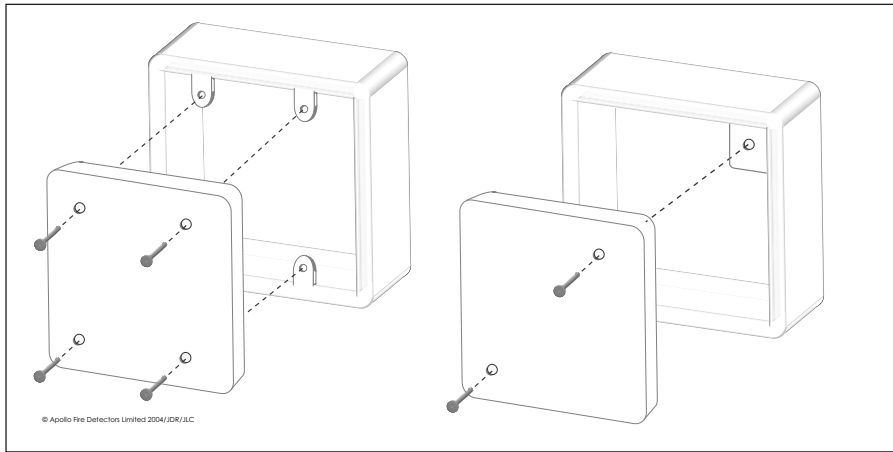

Fig 1. Mounting the XP95A Dual Priority Switch Monitor Module
2. Drill holes in the fascia plate corresponding to the holes on the mounting box selected (Fig 1).